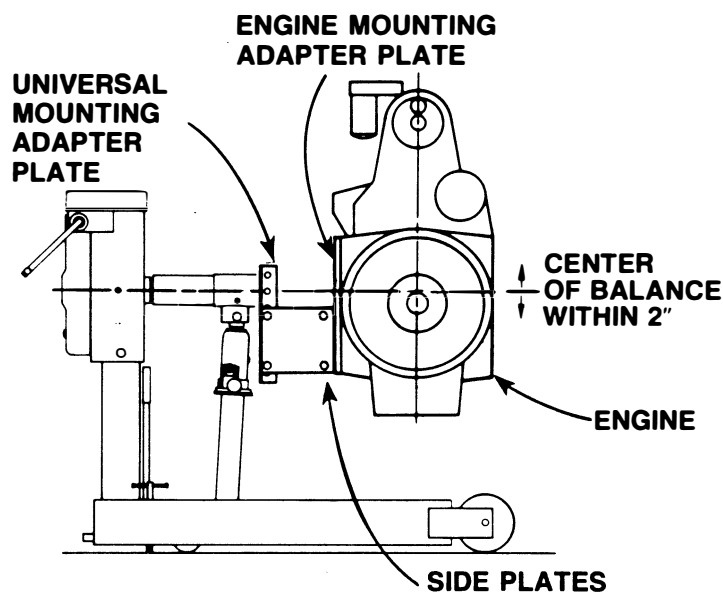

Figure 1
2. Find the engine's center of balance (or greatest concentration of weight). **Note: This is usually about two inches above the center of the crankshaft.** See Figure 1.